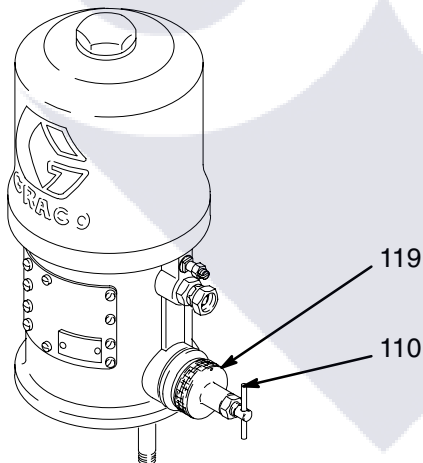

Fig. 2
To circulate fluid, open the Relax-A-Valve by loosening the locknut (119) and turning the T-handle screw (110) counterclockwise as far as possible. Start the pump and circulate the fluid as necessary. Stop the pump and close the Relax-A-Valve or set it in the automatic position. See Fig. 2.